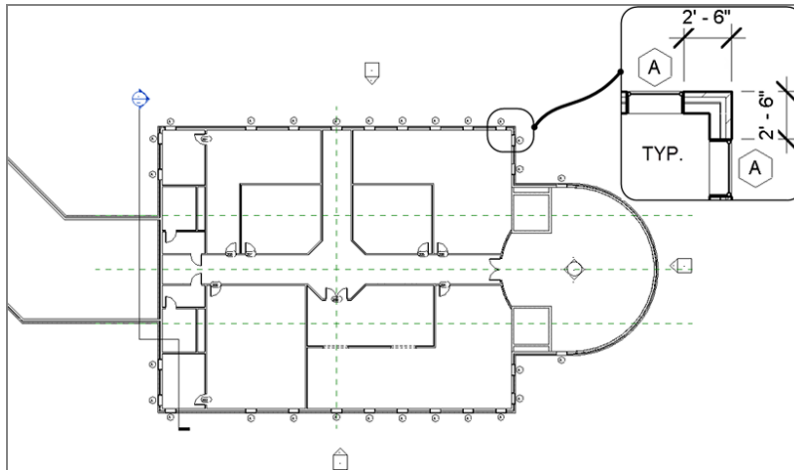

FIGURE 4.55: The layout for Level 2. Try to make the dimensions as even as possible, consistent with what is shown here.
- 7. Create a floor plan layout similar to Figure 4.55. Make all of the dimensions as even and as round as possible. Use all the commands and functions you’ve learned up to this point.